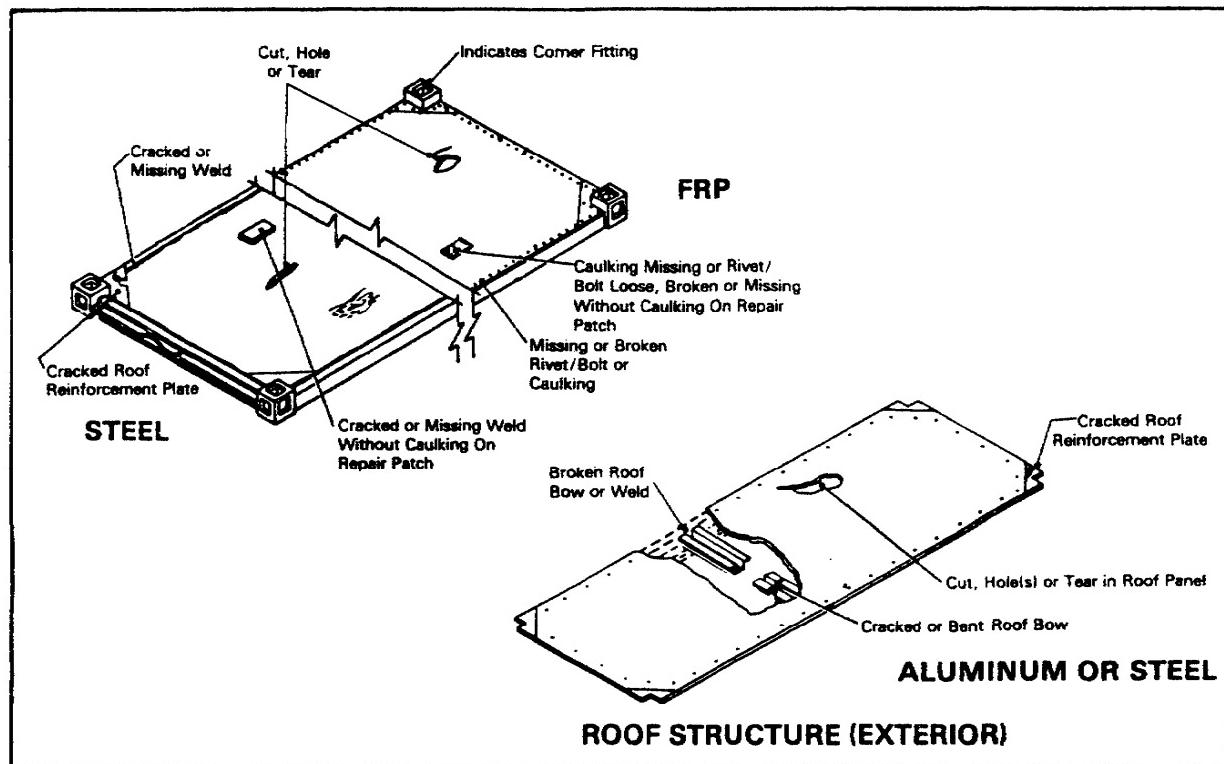

Figure 2-19. Typical Not Acceptable MILVAN Roofs.
*Item 6-Roof.* Climb on the roof and inspect it for holes and damage, and for any depression that would allow water to gather (figure 2-19). Check it for any unacceptable repair, such as an insecure weld or other improperly sealed patch. The roof must be firm and watertight.